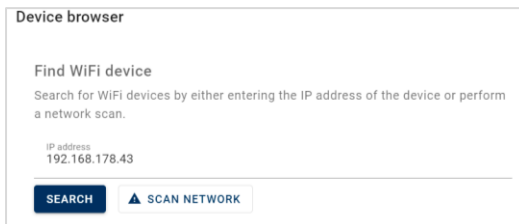

Figure 35
5. Enter the IP address and press **SEARCH** or search the tablet by pressing **SCAN NETWORK** (Figure 35).